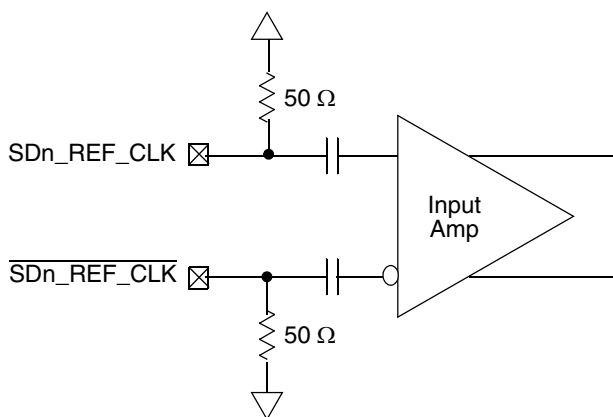

Figure 58. Receiver of SerDes Reference Clocks
Figure 58 shows a receiver reference diagram of the SerDes reference clocks.
- The $\overline{SDn_REF_CLK}$ and SDn_REF_CLK are internally AC-coupled differential inputs as shown in Figure 58. Each differential clock input ($\overline{SDn_REF_CLK}$ or SDn_REF_CLK) has a 50- Ω termination to SGND (xcovss) followed by on-chip AC-coupling.